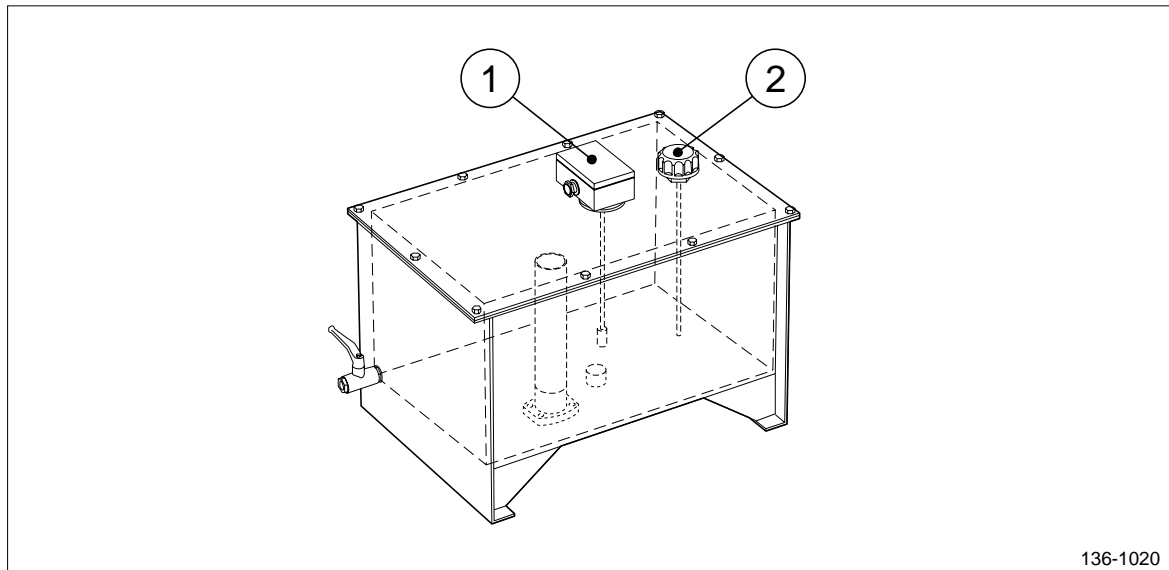

Figure 1 Gravity tank.
1. Locate the level switch and the dipstick, see figure 1.